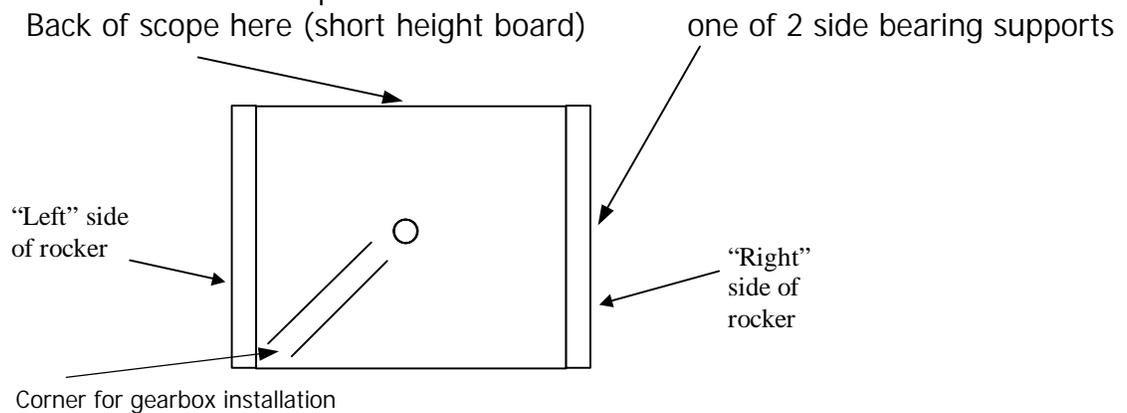

Figure 1 TOP VIEW OF ROCKER BOX
- 9) With the ground board in place on the bottom of the scope and using a pencil mark a circle on the bottom white glassboard surface at the point of the radius of the ground board – scribing directly *against* the surface of the ground board – taking care not to introduce parallax with the pencil (the curve needs to be directly at the edge of the ground board). This radius mark should be located at the corner noted above for the gearbox location (Figure 1)... be careful it IS this corner! See Figure 2 below.